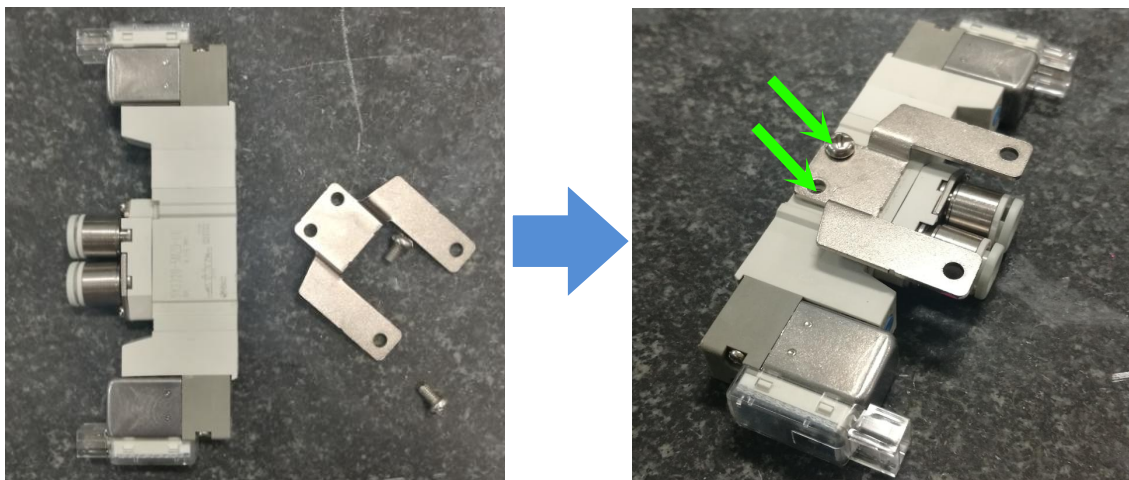

Figure 6 Holding Bracket Transplant
- Remove the Holding Bracket from Fix Rail Clamper Pneumatic Valve (Previously dismantled). Assemble the Holding Bracket to new “S2 EX Clamper Controller Kit”. May refer to below Figure 6